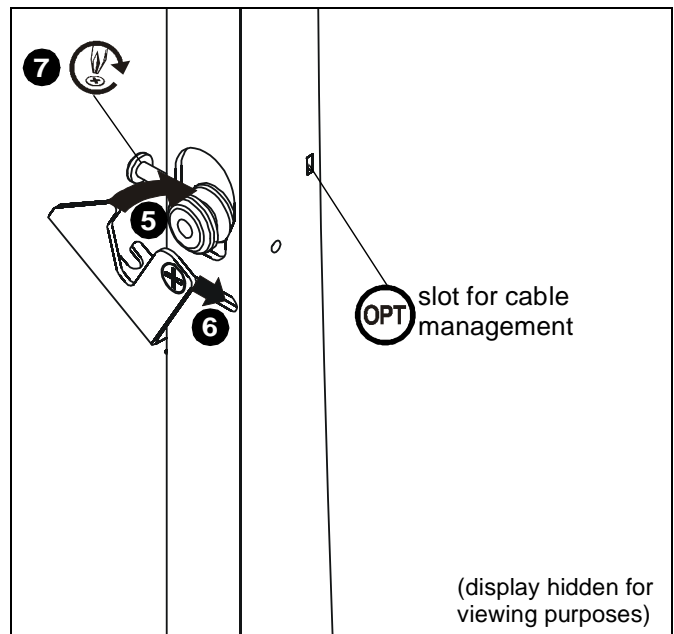

Figure 10
5. Move locking flag to closed position by wrapping it around mounting button. (See Figure 10)
6. Slide flag towards center of the mount to secure flag around mounting button. (See Figure 10)
7. Tighten screw to push mounting button towards center of mount and further secure display to mount. (See Figure 10)
NOTE: Slots on vertical brackets can be used for cable management by using cable ties (G) to secure cables to brackets. (See Figure 10)